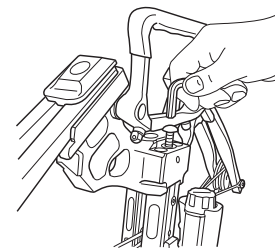

Figure 10
- 14 Secure the bow unit with foot stirrup attached to the barrel by tightening the assembly bolt with washer and lock washer in place using the 7/32" allen wrench provided. Tighten fully (See Figure 10). **TIP - Do not rock the bow unit back & forth when securing the bow unit onto the barrel. Tightening the assembly bolt will secure the bow unit.**